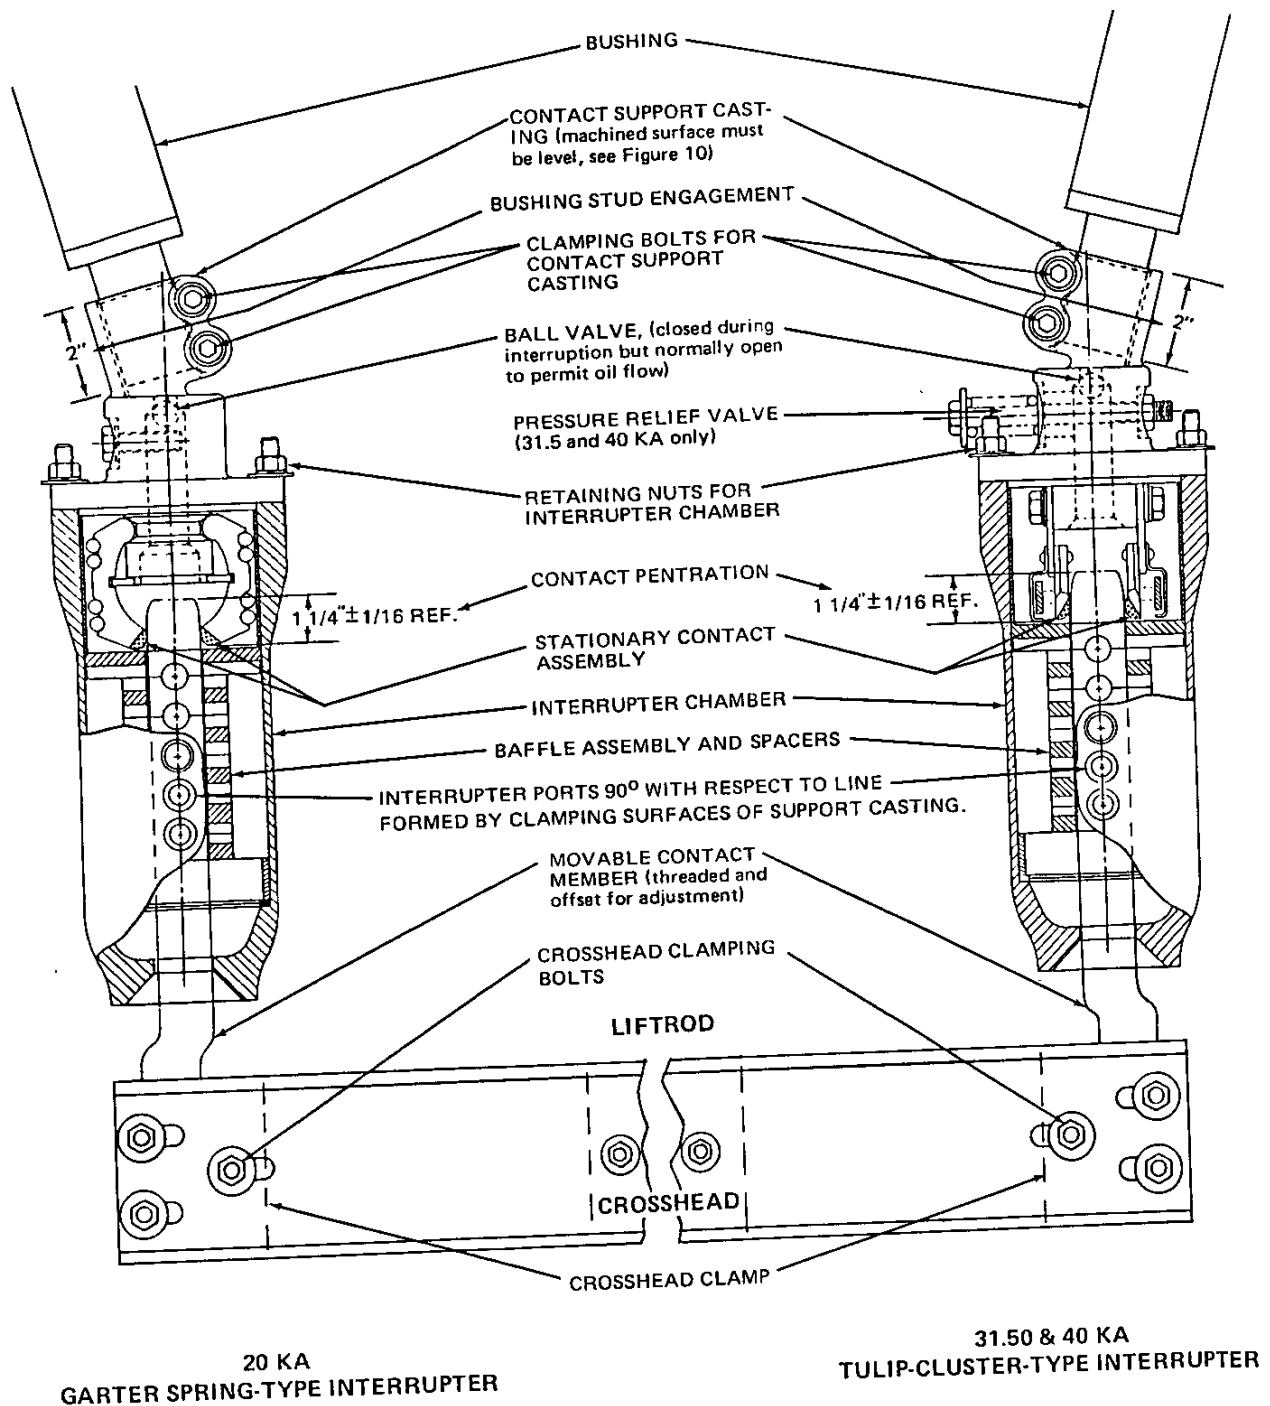

Figure 6
16. Make a scribe mark on each movable contact member 1-1/4 inches from the tip end (Figure 6).
17. Detach interrupter assemblies by removing four nuts at the contact support casting (Figure 6).
21. Reinstall the interrupter chambers (Figure 6).
- A. The interrupter port axis must form a 90-degree angle with respect to the line formed by the clamping surfaces of the contact support casting (Figure 6).
- B. Make sure each interrupter chamber is vertical and aligned with its movable contact member (Figure 6).